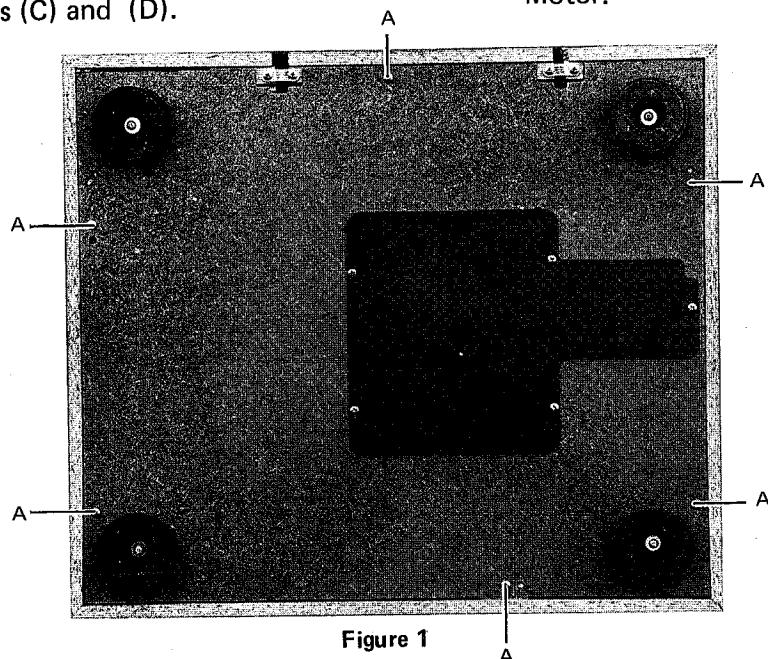

Figure 1
1. Bottom Board Removal (Figure 1)